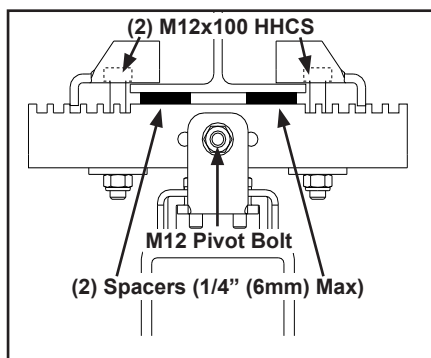

Figure 3-26
- Step 2. If leveling is required, loosen M12 x 100 mm HHCS, I-Beam bracket bolt and insert spacers, maximum 1/4 in (6 mm), between I-Beam bracket and bottom flange of I-Beam. See Figure 3-26.